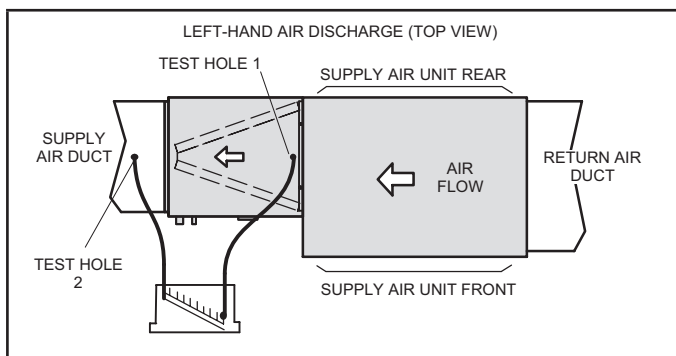

FIGURE 9. Static Pressure Test
To ensure accuracy, static pressure must be read from the air entry side of the coil to the air exit side of the coil. See figure 9 for an example to obtain an accurate reading.
- 1 - Drill a 5/16" test hole in the coil case 1" from the furnace flange (test hole 1, figure 9).
- 2 - Drill a 5/16" test hole into the supply air duct (test hole 2, figure 9).